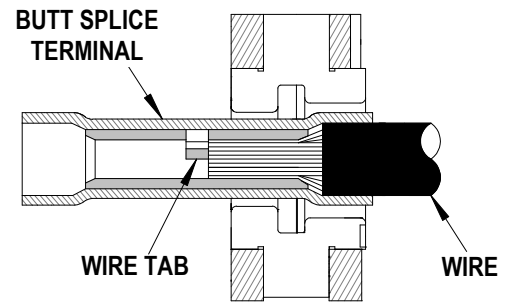

Figure 3
3. Insert the properly stripped wire into the splice. The wires end should butt against the tab in the terminal. See Figure 3.